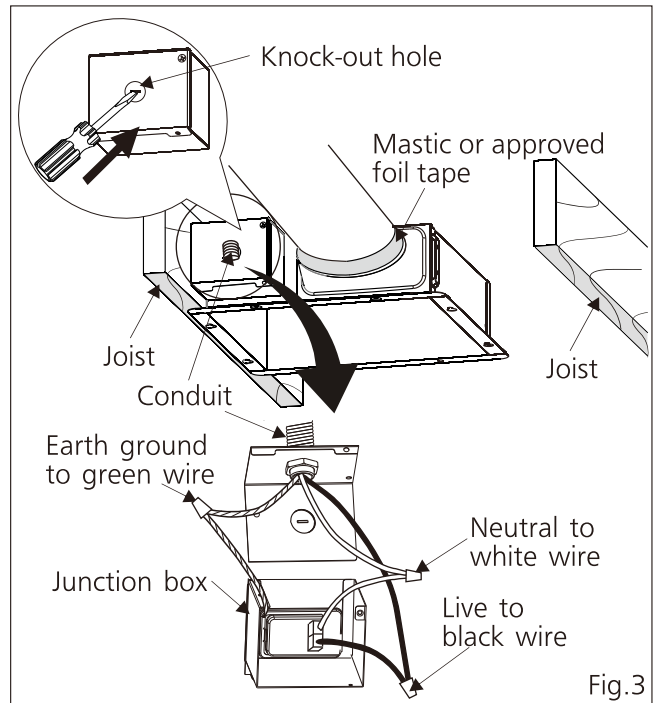

Fig.3
3. Remove junction box cover and secure conduit or stress relief to junction box knock-out hole. (Fig.3)
4. Refer to wiring diagram (P.4), follow all the local electrical safety codes as well as the National Electrical Code (NEC). Using UL approved wire nuts, connect house power wires to ventilating fan wires. (Fig.3)
5. A 4 inch circular duct is needed to connect to the relevant part of adaptor. Squeeze a circular exhaust duct to fit the adaptor, then slip it onto adaptor and secure it with clamps, or ties and seal it with mastic or approved foil tape. (Fig.3)